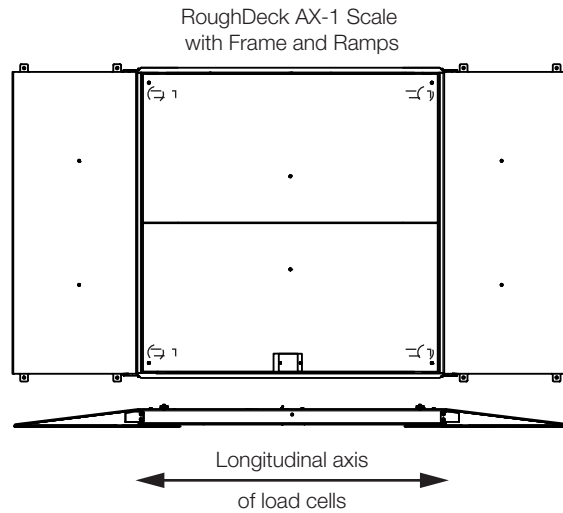

Figure 2-5. Align Ramps with Load Cells
1. Lift the ramps using the provided eye bolts and set the ramps in place. Orient the ramps along the longitudinal axis of the load cells. See Figure 2-5.